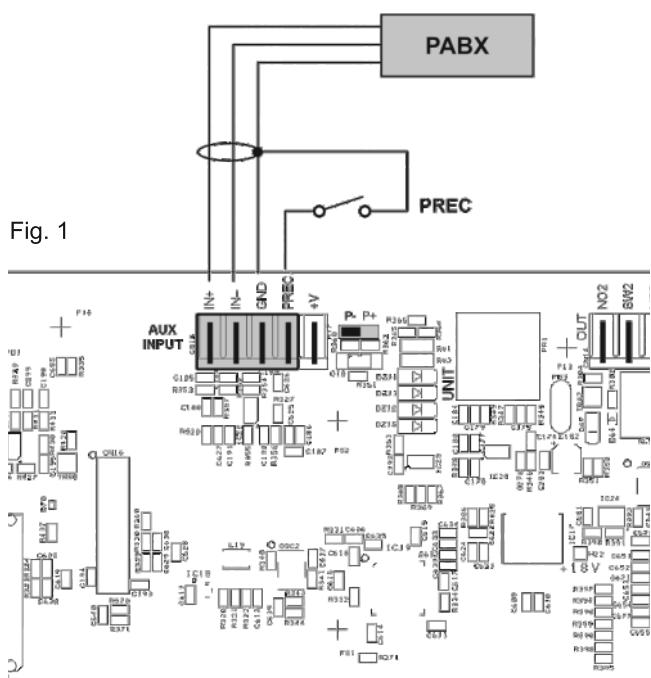

Fig. 1
The **AUX INPUT** terminals (7) are available for connecting auxiliary sources (e.g. a PABX or a base for announcements with a precedence contact). In the first case, it is necessary to fit a jumper in position "P-" (see Fig. 1). In the second case, on the other hand, using a pre-amplified station of the MBT 1101 range, connection between the AUDIO OUT socket of the base and the AUX terminals has to be made as indicated in the table and the jumper will have to be positioned on "P+" (see (Fig. 2).